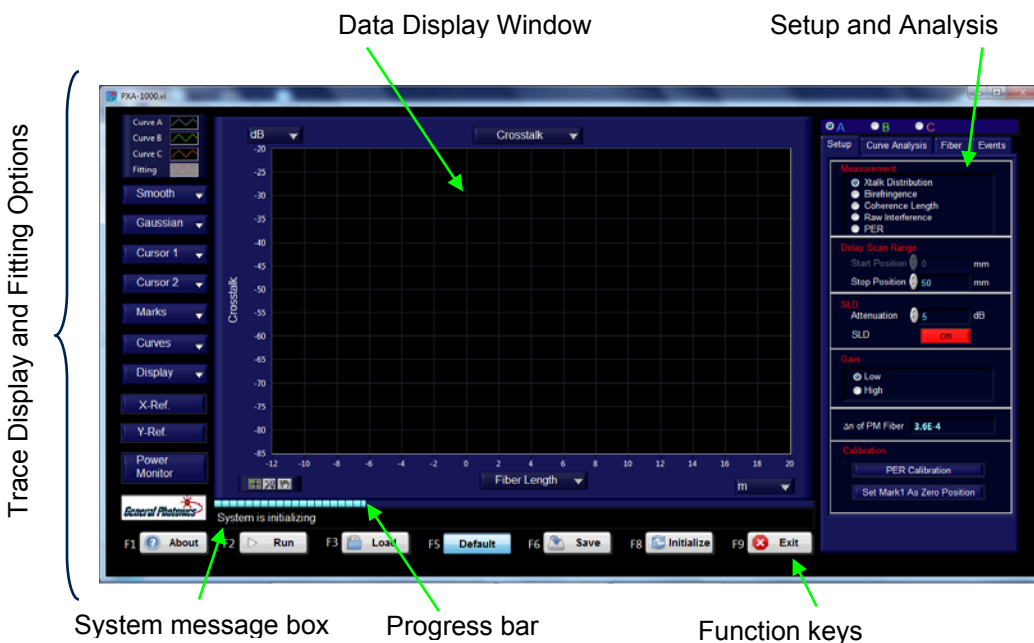

Figure 6 Main program interface
7. Run the program "PXA-1000" from the desktop or Start menu shortcuts. The program files are in the folder C:\DPXA\. The user interface screen shown in Figure 6 will appear.